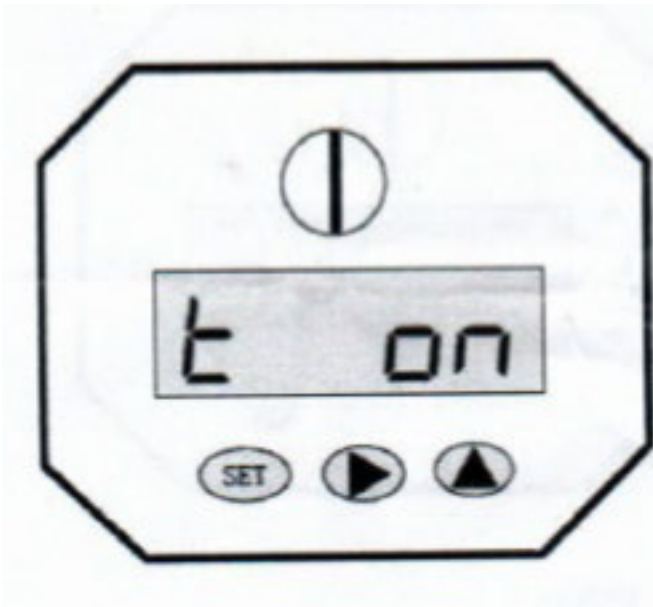

Fig. 1
1. Press and hold the Set button until it displays **t on**. (see Fig 1)